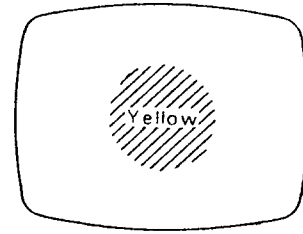

Figure 4
- (1) Produce a yellow raster by short-circuiting the base and the emitter of Q6B1 (B-DRIVE-1) with a short lead.
- (2) Loosen the deflection yoke screw and move it forward. Make certain that the yellow ball is at the horizontal center. If necessary, adjust purity magnets to center it.
- (3) Slide the yoke backwards to produce a uniform yellow raster (Figure 4).
- (4) Using the same procedure as for Preliminary Adjustment, produce a red, blue, and green primary color raster and make sure no contamination is observed for each color.
- (5) If necessary, repeat the above steps.
- (6) Tighten the yoke in position.